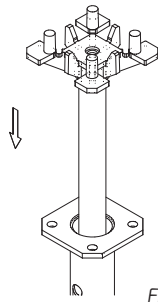
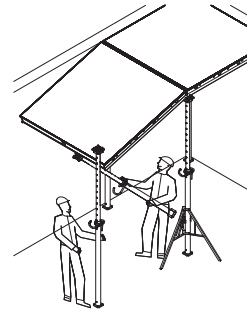

Fig. 14.10
Fig. 14.11
- The assembly should be continued by installing the other boards according to the prepared plan. The boards should be hung at an angle using the heads (fig. 14.10) of the existing structure and then they should be lifted to the level where the ceiling is installed and propped with the props (fig. 14.11).